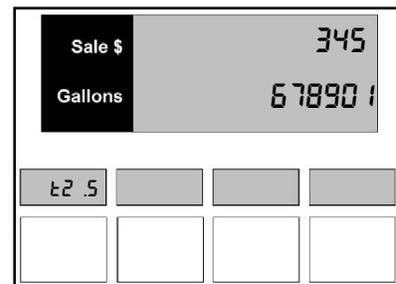

Figure 5.2 – Totalizer 2 Volume Amount
3. Press the **Enter** button to save the new value. The main display moves to the next meter total and the PPV display moves to totalizer two meter totals as shown in *Figure 5.2*. Repeat this sequence for any remaining products. Use the **Enter** button to advance or review the meter totals.